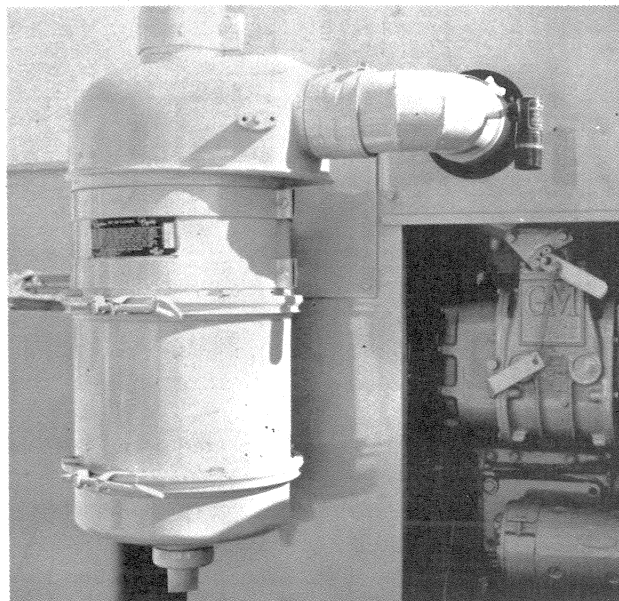

Figure 3. Elevator Engine Air Cleaner
- (1) Loosen the lower locking ring, and remove the lower sediment cap (Fig. 3). Dump the accumulated dirt, and blow or wipe clean. Inspect the cap for signs of warpage, bent, or damaged rim that would prevent a tight seal.